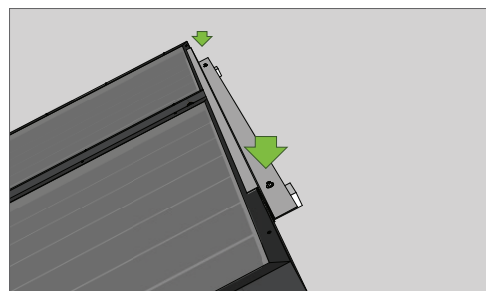

Fig 8
9. Place 2nd Z-frame support rail over the top of the panel/s & securely fasten to the side section through the upper hole using the supplied M8 bolts, washers & nuts (Fig 8).